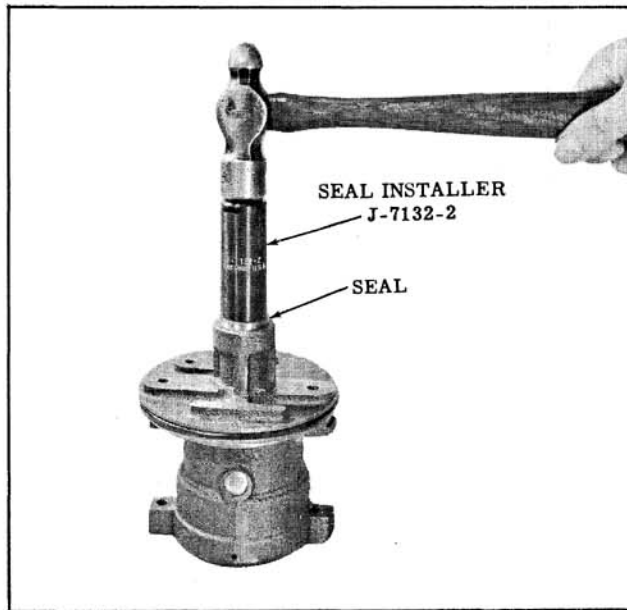

Fig. 8-30 Installing Pump Seal
2. Apply Special Seal Lubricant (Part No. 1050169) to the sealing lips of a new drive shaft seal and drive the seal into the pump body using Tool J-7132-2. (Fig. 8-30) Remove tool.